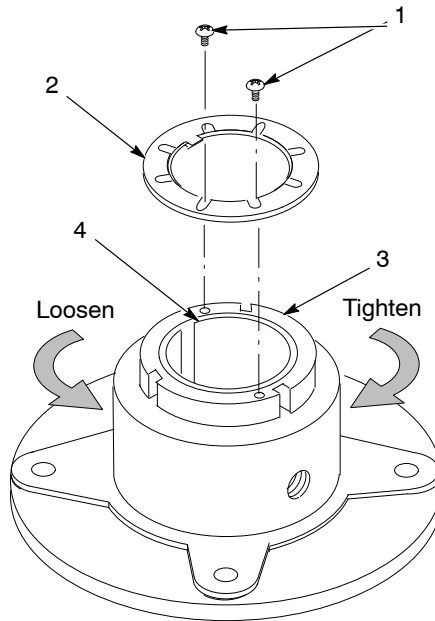

Figure 6-11 Bearings
3. See Figure 6-11. For both upper and lower bearings, remove the screws securing the lock plates (23), remove the lock plates, then turn the lock nuts (24) counterclockwise until the shaft slides easily out of the bearings.
4. If you are replacing the shaft, remove the fan sheave (4), bushing (3), and key (2) from the shaft as described in the *Fan Sheave Replacement* procedure on page 6-16.
5. If you are replacing the bearings, disconnect the grease tubing from the tube fittings (10). Remove the screws (6), washers (7, 12), and nuts (13) securing the bearings to the support (11).
See Figure 6-11.
- a. See Figure 6-11. Turn the lock nut (3) by hand as tightly as possible. Wear gloves while tightening the lock nut.
- d. Install the lock plate (2) on the bearing with the tang of the lock plate in the slot in the adapter plate, then and secure it with the screws (1).
16. Install the inlet cone (22) and adjust the fan overlap as described in the *Fan Replacement* procedure on page 6-18.
17. Tighten the fan sheave bushing screws (1) to the torque values in the *Fan Sheave Replacement* procedure on page 6-16. Make sure the sheaves are parallel.